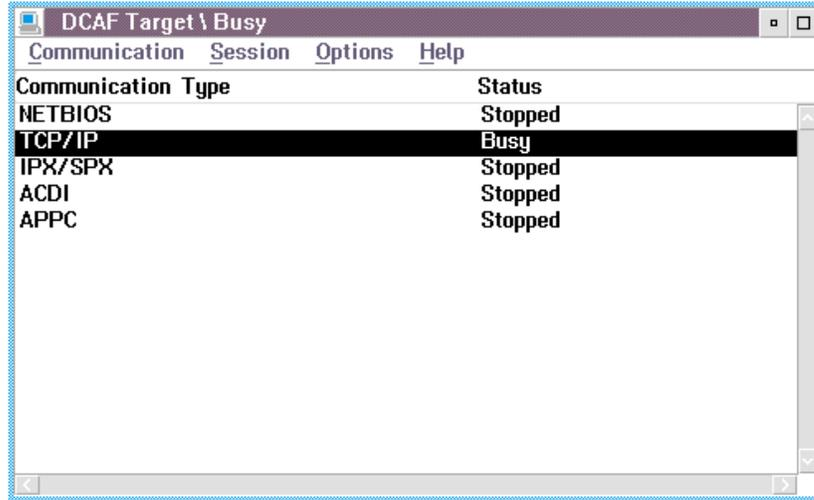

Figure 164. Changing Sessions
1. Press **Alt+T** on the Library Manager console. The DCAF Target window (Figure 164 on page 257) appears and shows that the target is busy.
1. If you have an active session, take control at the Library Manager by pressing **Alt+T**. The DCAF Target \ Busy window (Figure 164 on page 257) appears.